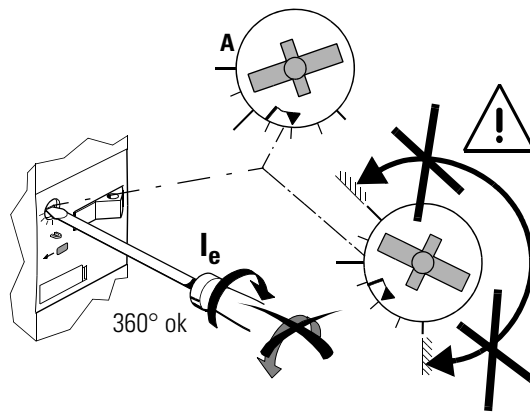

Figure 4-1: Current setting
- For standard motor starters with an installation width of 45/90 mm (see Figure 4-1):